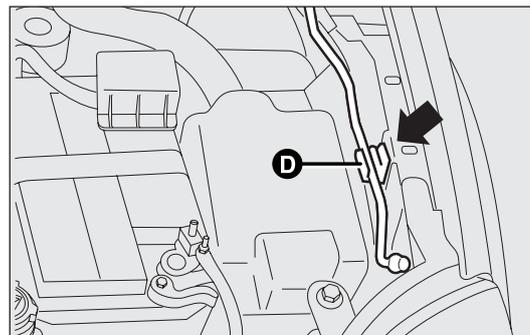
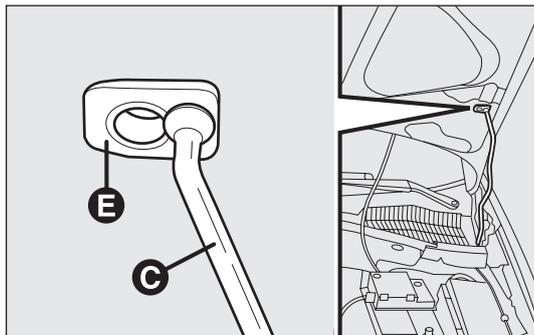

fig. 110
fig. 111
- lift the bonnet and, at the same time, release the bonnet support rod from its locking device D-fig. 110; then insert the end of the bonnet support rod C-fig. 111 into the hole E.
- hold the bonnet up with one hand and with the other remove the rod C-fig. 111 from the hole E and fit it back into its catch D-fig. 110;